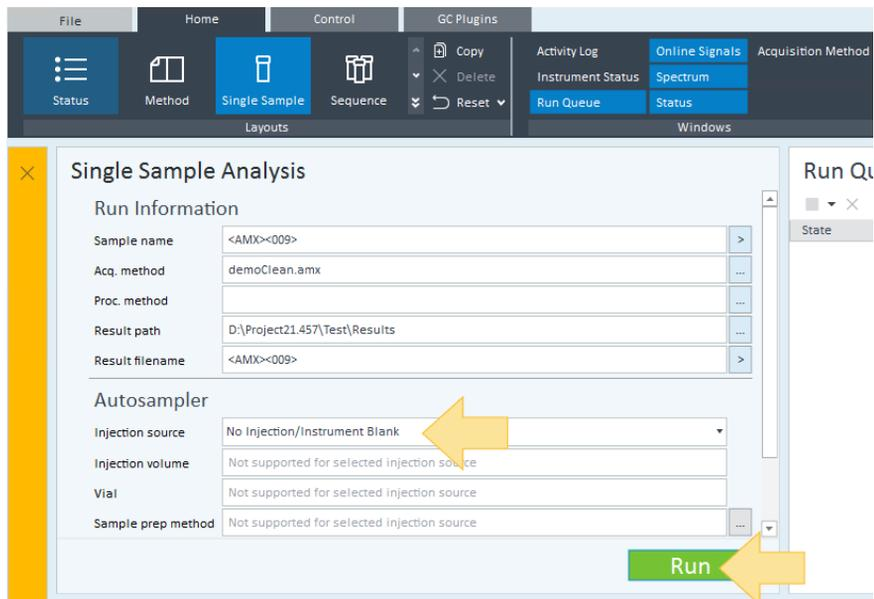

Figure 30. Single Sample window
- 8 For **Injection source**, select **No Injection/Instrument Blank**. This mode tells both the GC and the MS to run the specified method, even though no sample has been included. (See Figure 30 on page 105.)